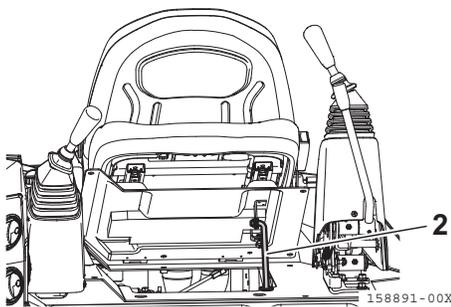

Fig. 2-71
4. Raise the operator's seat bottom cover and secure it with the stopper rod (Fig. 2-71, 2).
1. Lift the operator's seat bottom cover up slightly and disengage the stopper rod (Fig. 2-71, 2).